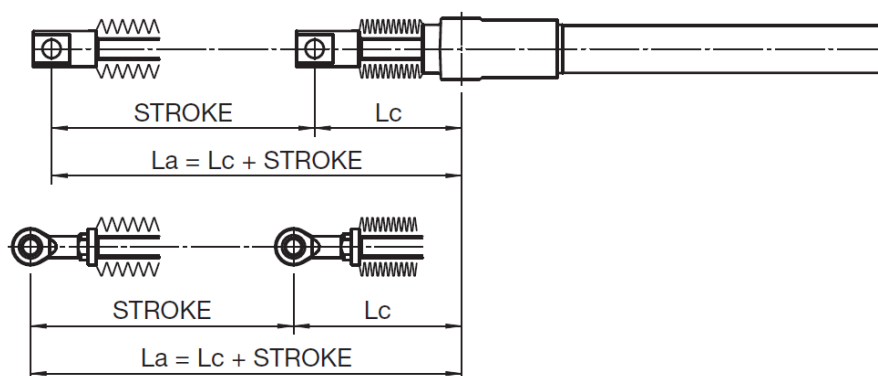

Figure 6.11 – “Lc” and “La” dimensions
- Check if the extreme dimensions of the actuator “Lc” and “La” (see Fig. 6.11) are compatible with extreme positions of the plant component that has to be moved.